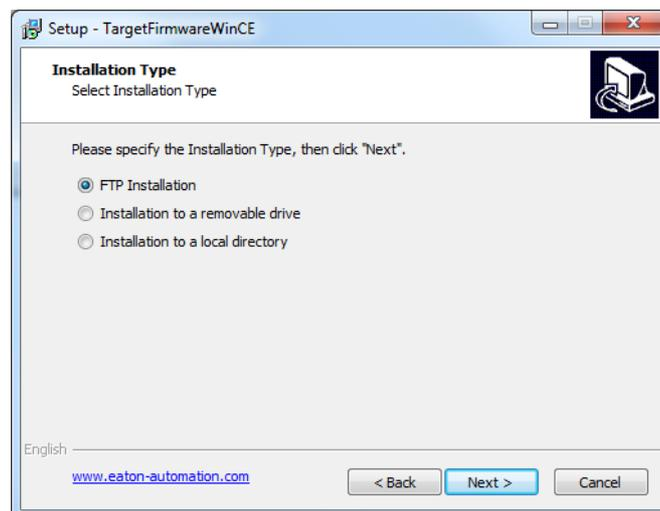

Figure 28: "FTP installation" window
The update process when using removable media or a local directory (→ Figure 28, page 45) is similar to that for FTP installation.
- ▶ Go to the “Setup - TargetFirmwareWinCE” (→ fig. 28) window and select “Install using removable media”.